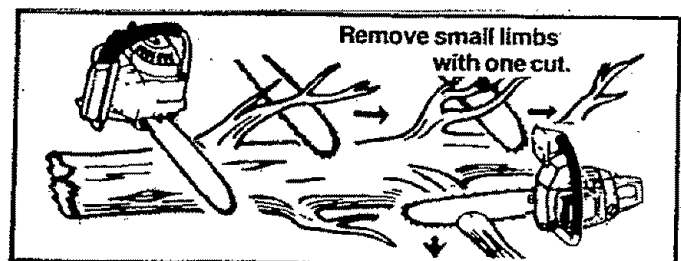

Figure 28
- Start at the base of the felled tree and work towards the top, cutting branches and limbs. Remove small limbs with one cut. Figure 28.